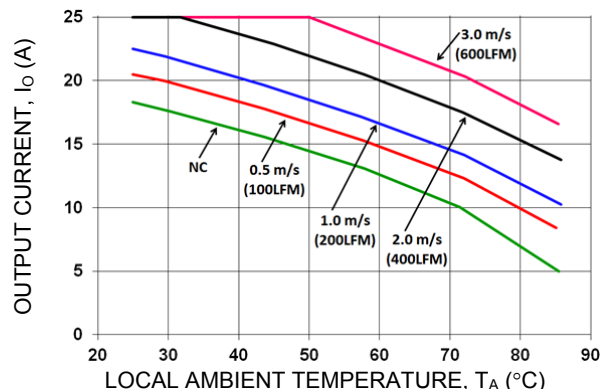

Figure 20. Output Current Derating for the Open Frame EBVW025A0B in the Transverse Orientation; Airflow Direction from Vin(-) to Vin(+); Vin = 48V.
Increased airflow over the module enhances the heat transfer via convection. The thermal derating of figures 20 through 22 show the maximum output current that can be delivered by each module in the indicated orientation without exceeding the maximum THx temperature versus local ambient temperature (TA) for air flows of, Natural Convection, 1 m/s (200 ft./min), 2 m/s (400 ft./min).
The use of Figures 20 is shown in the following example:
Determine required airflow (V) (Use Figure 20):